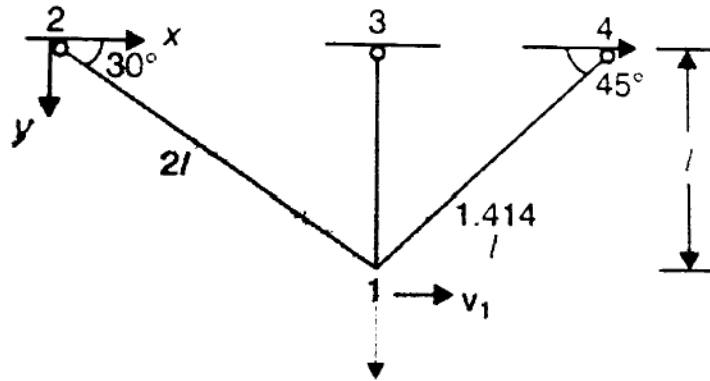

Figure 5
10. Find the natural frequency of the following truss bar figure 5. [10]